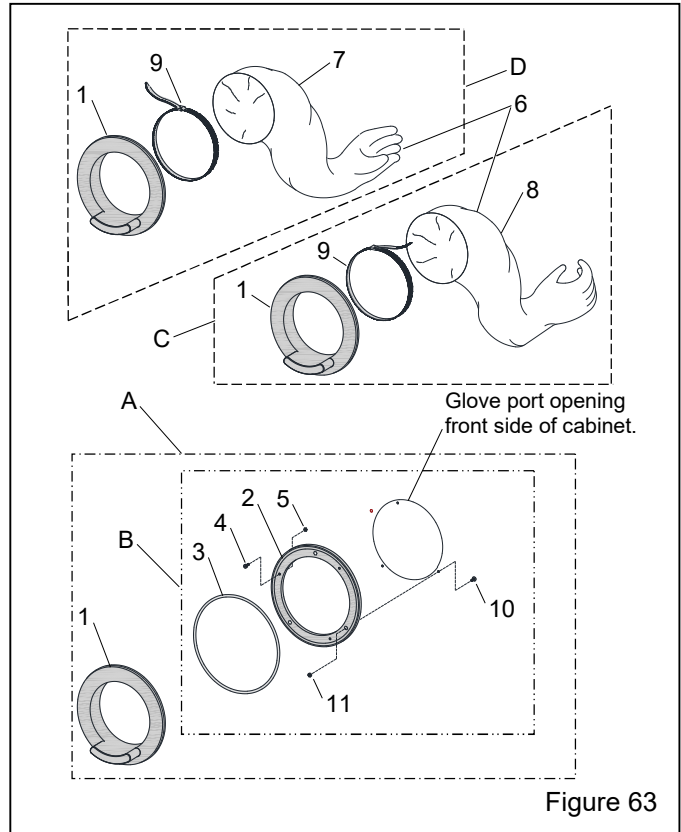

Figure 63
10.6 Gloves and Glove Attachments – Figure 63